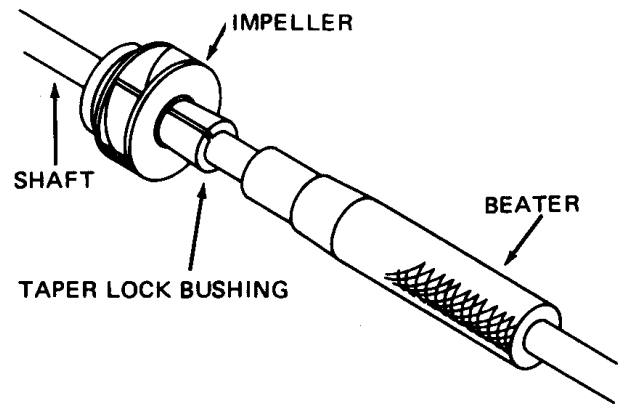
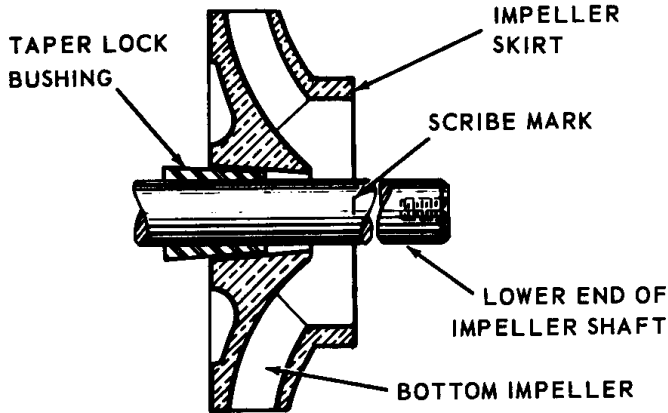
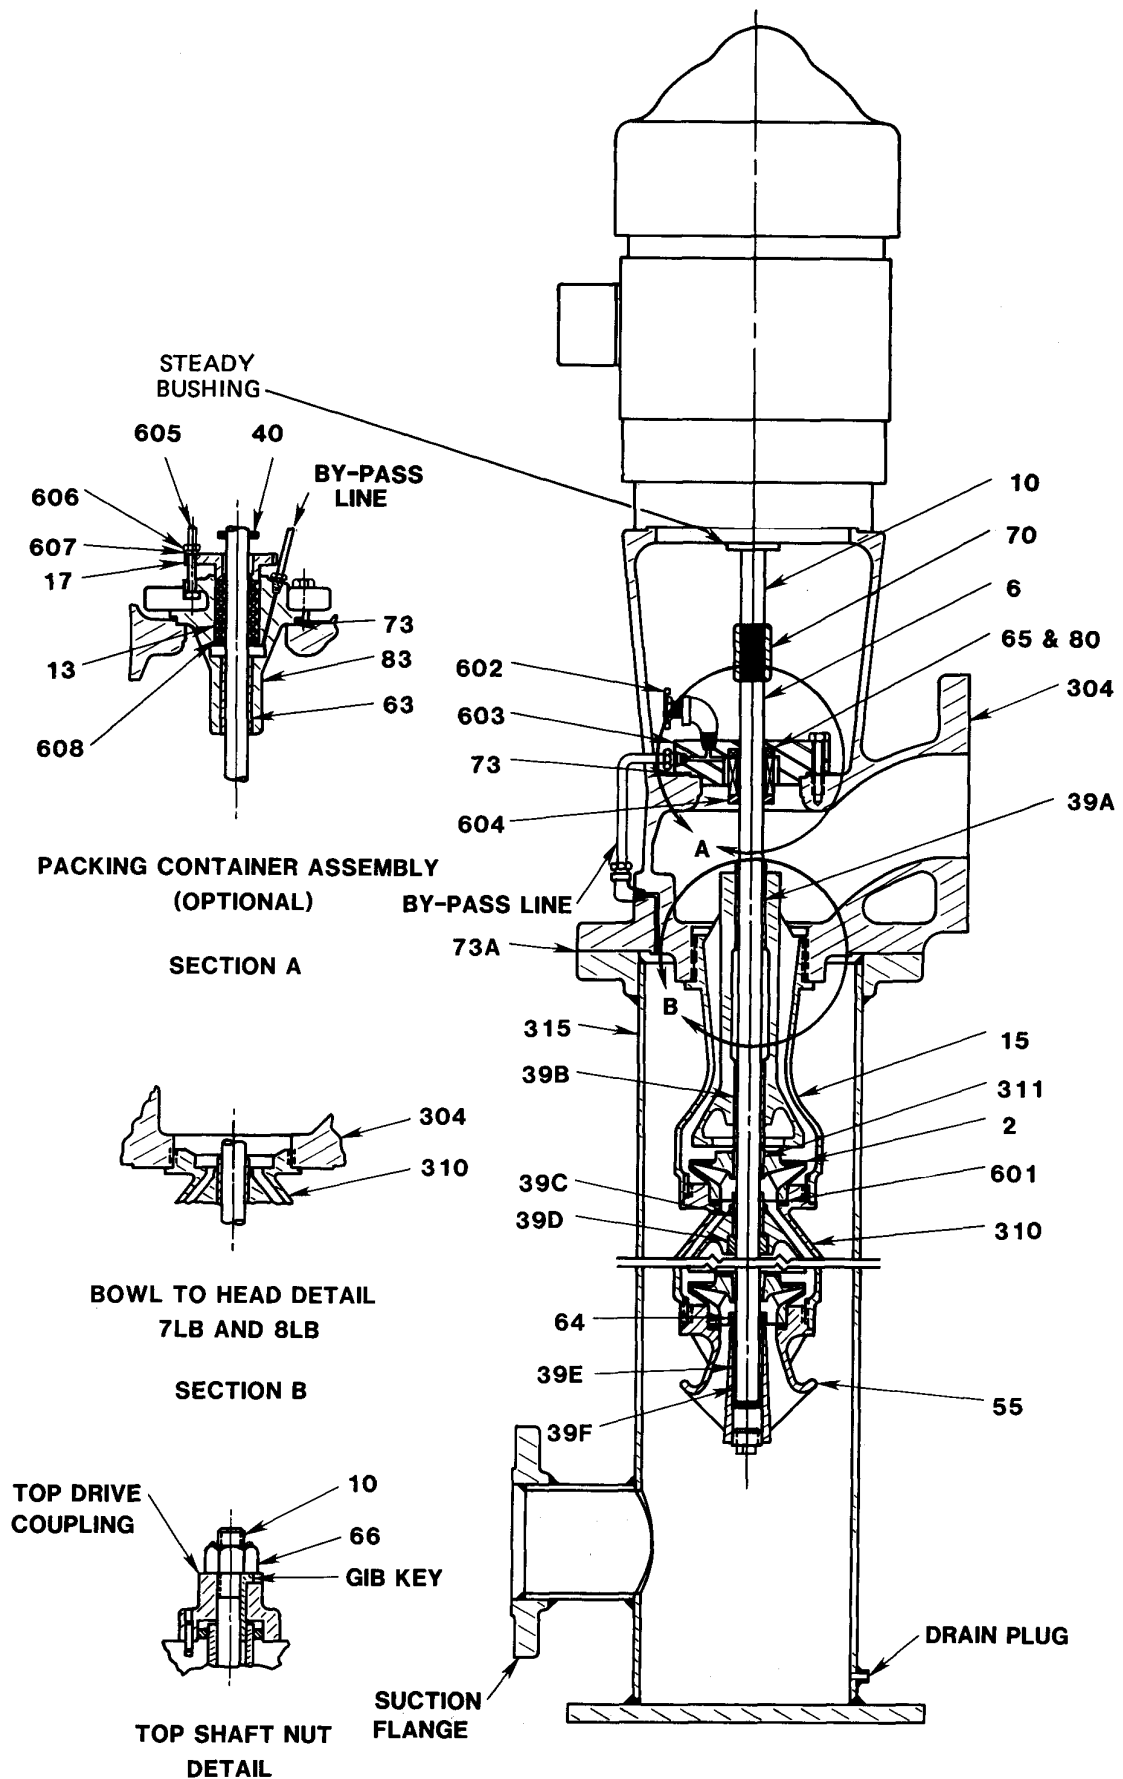

Figure 4 Installing Taper Lock Bushings
Figure 6. Location of Impeller
Figure 8 Pump Cross Section
2. Close the suction and discharge valves and remove the drain plug (Figure 8) from the can assembly (315).
4. Remove the locking screws. Take off the top nut (66), gib key and the top drive coupling.
5. Remove the top shaft (10) from the shaft coupling (70) by holding the coupling and turning the top shaft clockwise with pipe wrenches. Be careful not to bend the shaft.
8. If there is sufficient head room to remove the pump from the can assembly (315), unscrew the discharge head screws and bolts on the discharge flange and lift the pump assembly out of the can (315). If head room is not sufficient for this, remove the bolts from the suction flange and base of the can, and move the entire pump and can assembly to a suitable work area.
9. Unscrew shaft coupling (70) from the impeller shaft (6). As thread is left hand, turn clockwise to loosen.
10. VTP only: Remove the rubber deflector ring (40) packing gland (17) and packing (13). Disconnect and remove seal piping. Remove packing container (83) and gasket (73).
11. VTM only: Remove the four seal flange cap screws and lock washers and lift off the seal flange (603) with gasket (73) and stationary seal with o-rings intact. Carefully pull out the rotating seal head assembly.
12. Unbolt or unscrew the discharge head from the bowl assembly and remove the shaft squeeze collar (604) from the shaft above the top bowl (VTM pump only).
13. Unscrew the plug in the bottom of the suction manifold (55). Unscrew or unbolt the suction manifold from the bowl assembly. Chain tongs should be used for threaded manifolds.
14. Check the impeller shaft (6) near the impeller (2) for a scribe mark (see Figure 6). If the original scribe mark does not appear on the impeller shaft in the same plane as the lower face of the impeller skirt, scribe the shaft at this point. On reassembly, it is important that the impellers be remounted in the same position on the shaft as in the initial installation.
15. Tap the impeller taper lock bushing (Figure 6) out of the bottom impeller with a beater. The use of a beater to install a bushing is shown in Figure 4. Remove the impeller from the shaft.
1. Support the impeller shaft on a set of wood V blocks on a table or on the floor. Find the scribe mark on the shaft which locates the bottom impeller. If the shaft does not have a scribe mark, Table I may be used to locate the scribe mark (A).
2. Place a taper lock bushing (311), large end first, and then an impeller (2), large end first, onto the lower end (Figure 6) of the impeller shaft (6). Slide the impeller past the scribe mark and then back again until the impeller skirt face is in the same plane as the scribe mark. Hold the impeller in place while gently tapping the taper lock bushing into the impeller bore until snug. (See Figure 4).
26. Lower the top shaft (10) slowly down through the motor and install tightly into the shaft coupling (Left Hand thread.) Extreme care should be taken when lowering top shaft through motor, as 3600 RPM motors are furnished with a close tolerance steady bushing on the lower end of motor (Figure 8).